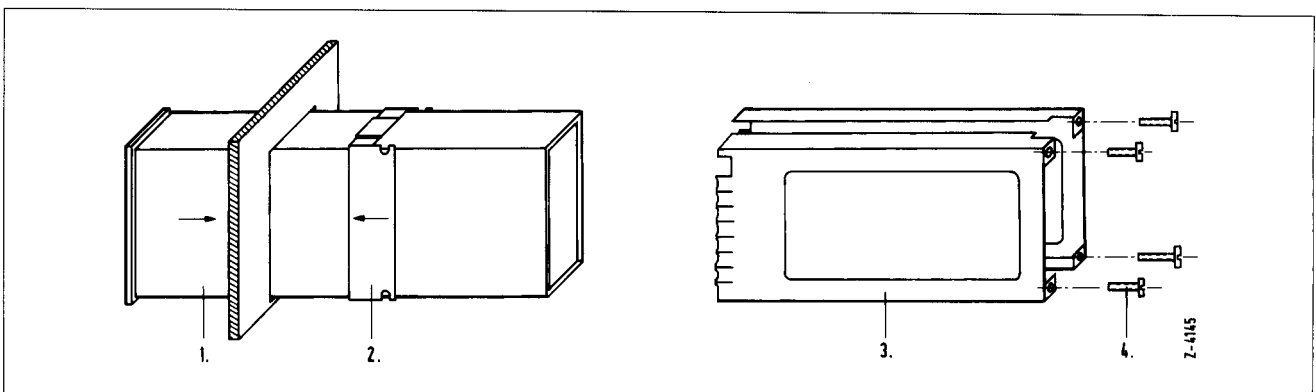

Fig. 1.4 Panel in rack mounting
1.2 Mounting the unit case (Fig. 1.4)